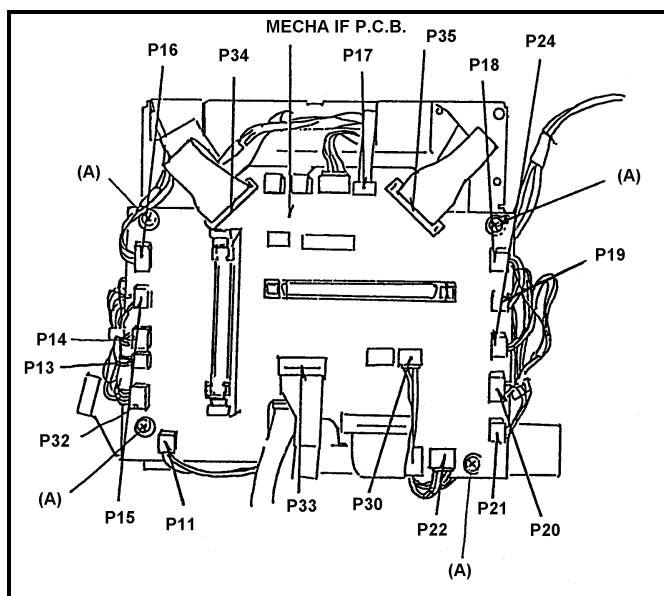
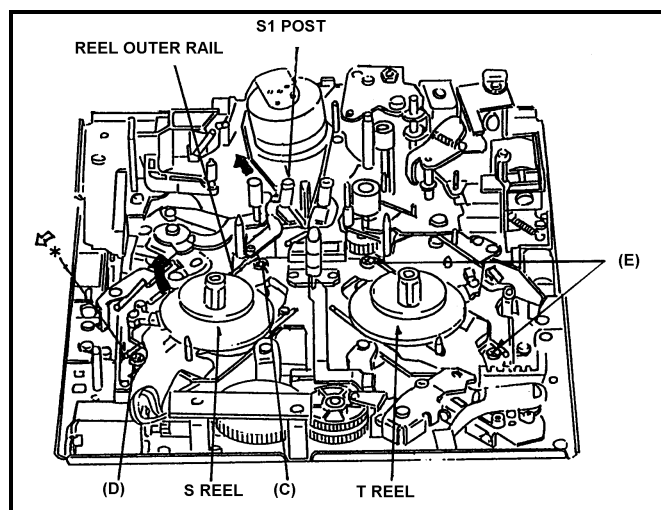
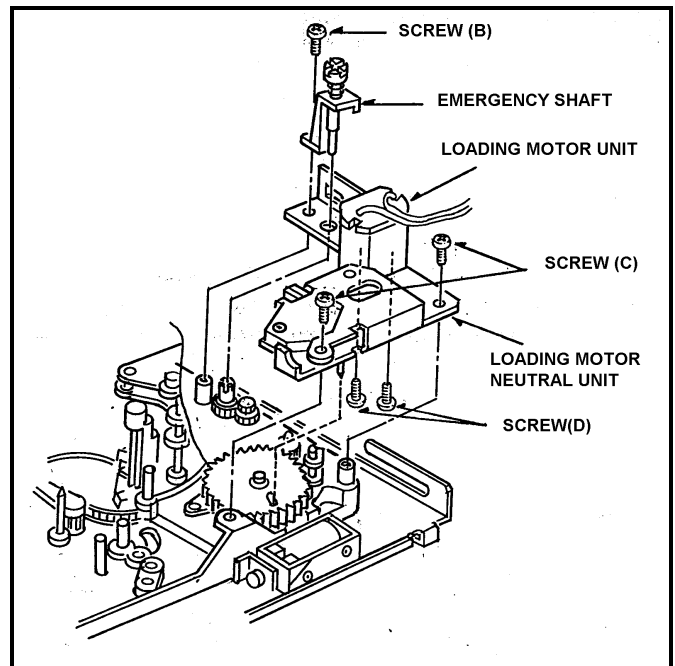

Fig. 6-3-1 Connection of S & T Reel Rotor Unit
Fig.6-3-2 Removal of S & T Reel Rotor Unit
Fig. 6-9-1 Removal of Loading Motor
4. Disconnect the connector P34 and P35 on the Mech I/F P.C.Board as shown in Figure 6-3-1.
5. Move the S1 post to loading direction by manual ejecting method until the screw (C) can removing position.
8. Remove the 4 screws (C), (D) and (E) as shown in Figure 6-3-2.
4. Disconnect the connector P15 on the Mech I/F P.C.Board as shown in Figure 6-3-1.
4. Disconnect the connector P18 on the Mech I/F P.C.Board. as shown in Figure 6-3-1.
4. Disconnect the connector P20 on the Mech I/F P.C.Board as shown in Figure 6-3-1.
4. Disconnect the connector P21 on Mech I/F P.C.Board as shown in Figure 6-3-1.
5. Remove the Pinch Solenoid Unit (Refer to item 6-7).
6. Remove the Pinch Solenoid Lever. (Refer to item 6-8).
7. Unscrew the screw (B), and remove the Emergency Shaft as shown in Figure 6-9-1.
8. Unscrew the 2 screws (C) and remove the Loading Motor Neutral Unit as shown in Figure 6-9-1.
9. Unscrew the 2 screws (D) and remove the Loading Motor Unit as shown in Figure 6-9-1.
1. Install the new Loading Motor Unit to Loading Motor Neutral Unit by tightening 2 screws (D).
2. Install the Loading Motor Neutral Unit by tightening the 2 screws (C), then be careful that the pin of Mode SW Unit should be matched to groove position of main Cam Gear.
3. Install the Emergency Shaft by tightening the screw (B).
4. Install the Pinch Solenoid Unit and after installation it, Pinch Solenoid Position adjustment is required. (Refer to item 5-2).
5. Connect the connector P21 on the Mech I/F P.C.Board. as shown in Figure 6-3-1.